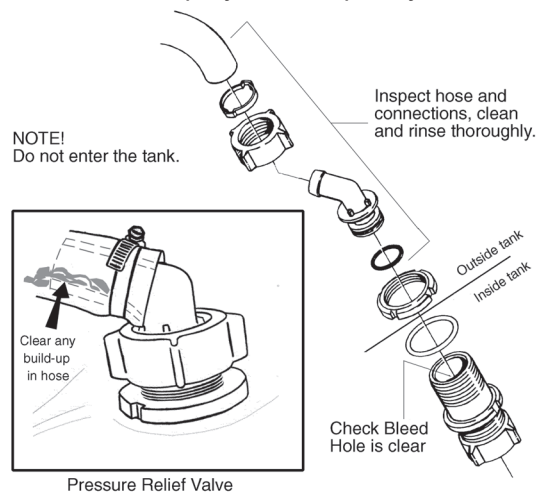

Fig 41
- 5 Inspect pressure relief valve (mounted on main tank - see Fig 41), and ensure it is thoroughly cleaned, rinsed and free of any residues. Ensure that the bleed hole is clear of debris and the pressure relief valve is bypassing fluid back to the main tank during normal spray operations.